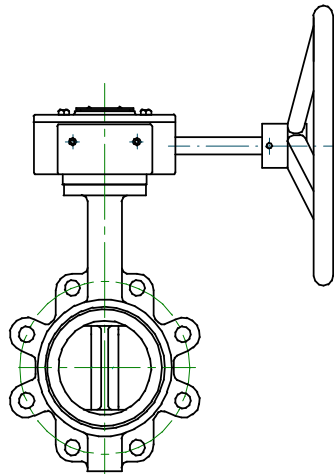

FIGURE 6: GEAR OPERATOR INSTALLATION POSITION
- Step 3. Line-up the valve stem with the gear operator bore and slide the gear operator onto the valve with the handwheel pointing to the right of the valve when looking at the nameplate (Figure 6).